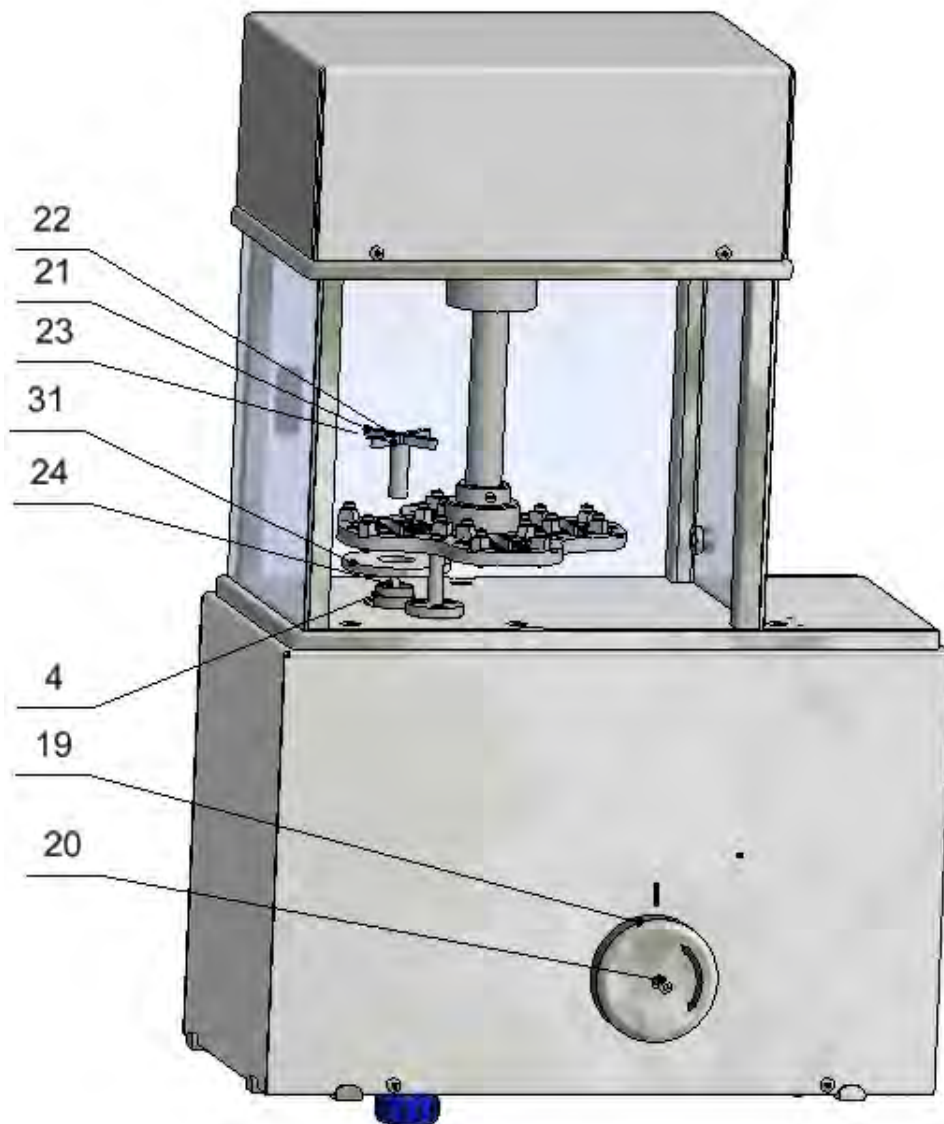

Fig. 9
25. Install knob (19) and turn it to the maximum load position. Next: apply draft shield (31) onto the pan shield assembly (4), place the weighing pan (21), fixed by M4 screw (22) to the mandrel (23), on a vertical rocker extension (24). (Fig.9)